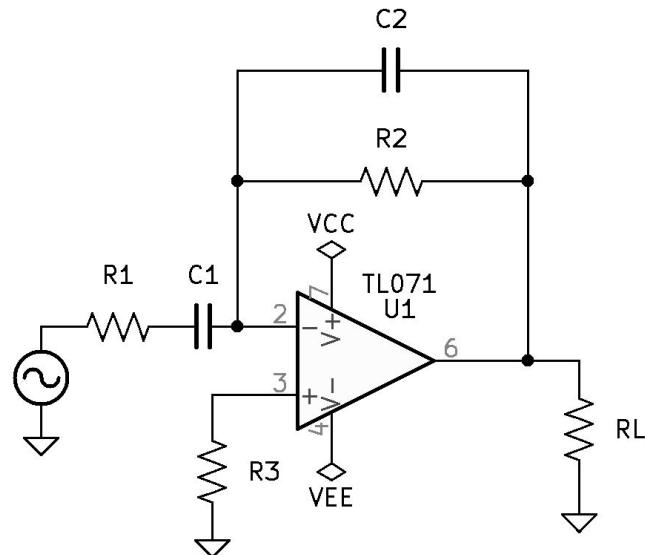

Figure 8.5: Band-Pass First-Order Active Filtering Circuit.
1. See Figure 8.5 *Band-Pass First-Order Active Filtering Circuit* on page 87.